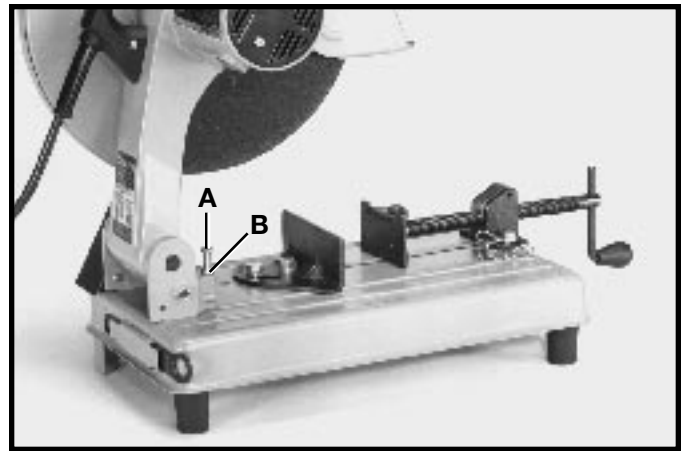

Fig. 14
A stop screw (A) Fig. 14, is provided to limit the downward travel of the abrasive wheel. This adjustment is made by loosening lock nut (B) and turning stop screw (A) in or out as desired. Then tighten lock nut (B).